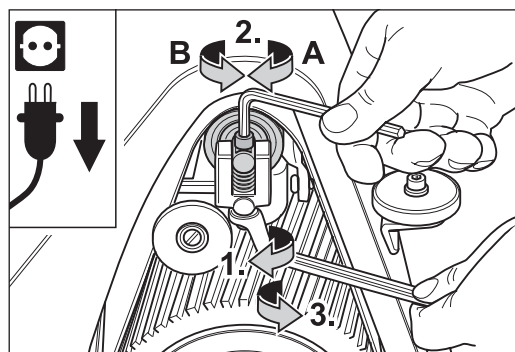

Fig. 72 Adjust the sanding belt tracking at the setting screw of the drive unit (see description on the left).
- 6 If readjustment of the tensioning roller is necessary, release the lock nut at the drive unit (Fig. 72, 1.) and adjust the tensioning roller with the screw (Fig. 72, 2.):**
- 7 If the sanding belt tracking is seen to be correct after adjusting once, tighten the lock nut again (Fig. 72, 3.).